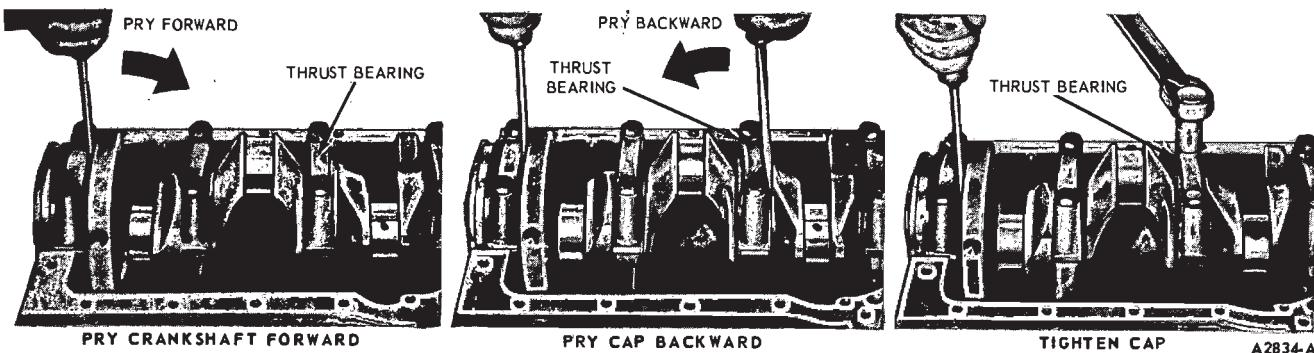

FIG. 47—Aligning Thrust Bearing
11. Pry the crankshaft forward against the thrust surface of the upper half of the bearing (Fig. 47).
12. Hold the crankshaft forward and pry the thrust bearing cap to the rear (Fig. 47). This will align the thrust surfaces of both halves of the bearing.
13. Retain the forward pressure on the crankshaft. Torque the cap bolts to specifications (Fig. 47).